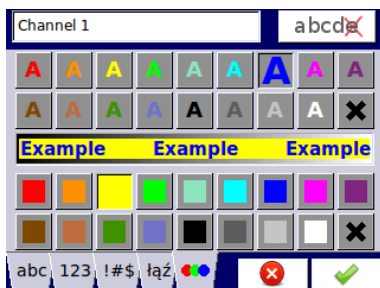

Fig. 7.5. Text editor – font and background color selection
- font and background colors, see **Fig. 7.5**,